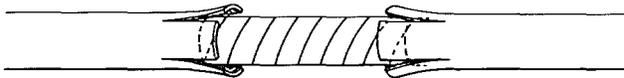

Fig. 6—Wrap Core
(4) Wrap the core. Wrap pulp or paper insulation with two half-lapped layers of B paper tape. Wrap PIC cable with a half-lapped layer of D vinyl tape. In both cases, extend the wrappings underneath the tabs a half inch (Fig. 6).